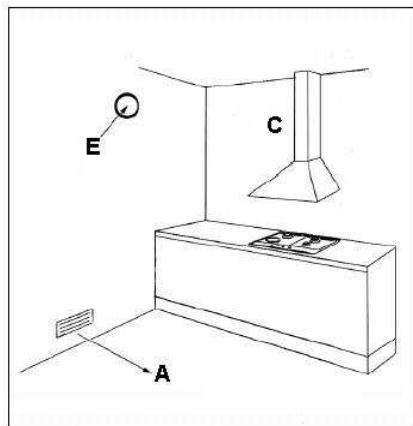

Figure 4.
See **figure 4** below.
Combustion fumes produced by gas appliances must get outside by means of a hood (C) connected either directly to an exhaust duct or to the outside. See **figure 4** above.
See **figure 4** above. This electric extractor fan must have a sufficient capacity to guarantee a change of air of the kitchen (or area) of at least 3 to 5 times its volume.